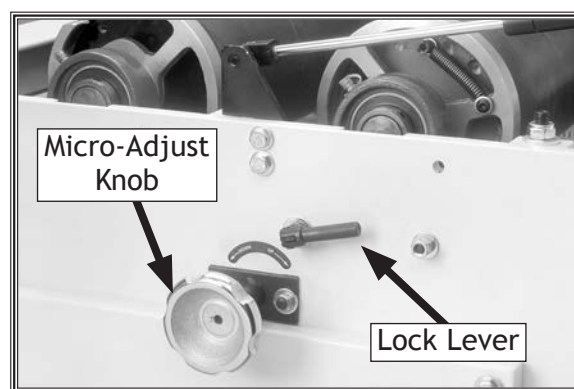

Figure 56. Rear right sanding drum micro-adjusting knob.
5. Loosen the lock lever or lock handle (see **Figures 56 & 57**) at one end of the rear drum.